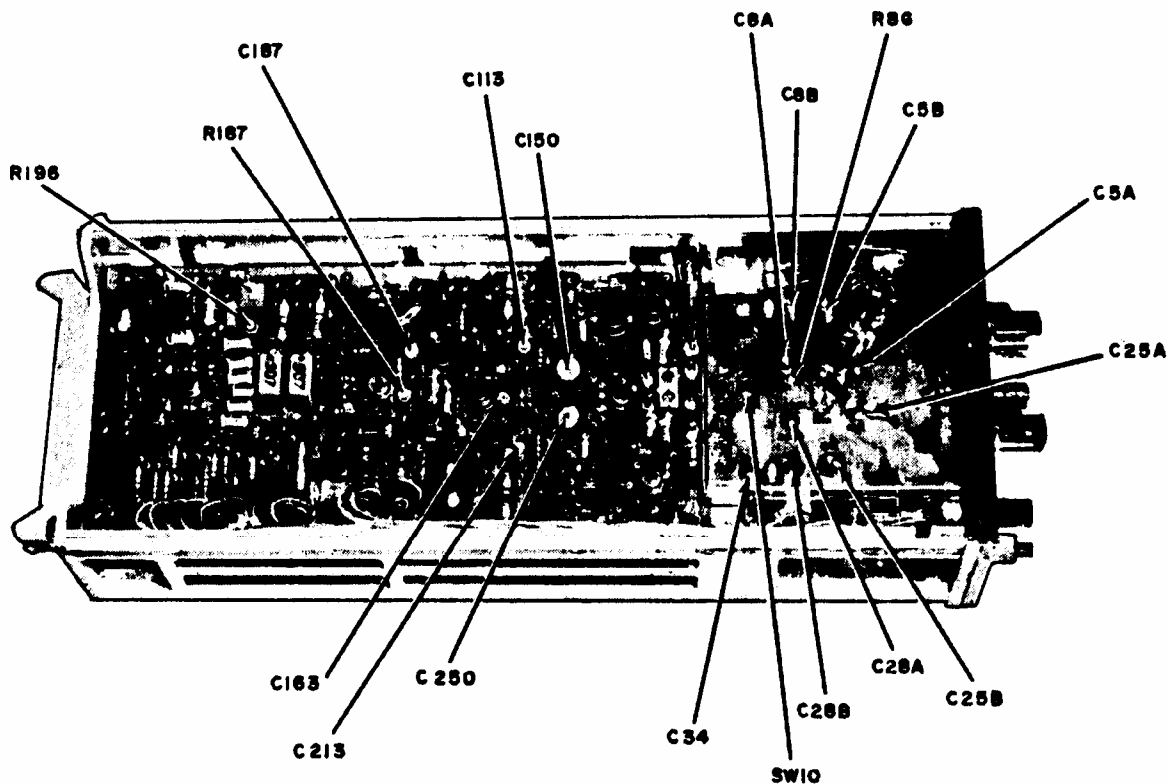

Figure 1. Adjustment locations - left side view (Type 7A13).
- (1) + and - polarity pushbuttons out.
- (2) **VOLTS/DIV** switch to 10 mV and **VOLTS/DIV VARIABLE** control to **CAL** (detent).
- (3) **+INPUT** and **-INPUT** pushbuttons to **GND**.
- (4) **VOLTS** counter set to 0.000 (cw 0.000 for TI's with electrical counter).
- (5) **PULL VOLTS/DIV VAR FOR X10 Vc** control pushed in.
- (6) **VAR BAL** control to midrange.
- (7) **BW** pushbutton to 5 MHz.
- (8) **POSITION** control to midrange.
- (9) **X10 BAL** control to midrange.
- (10) **STEP ATTEN BAL** control to midrange.
- (11) **SW 10** switch (fig. 1) fully ccw (R in = 1 M Ω).
Test instrument VOLTS/DIV switch settings	Adjustments (fig. 1)